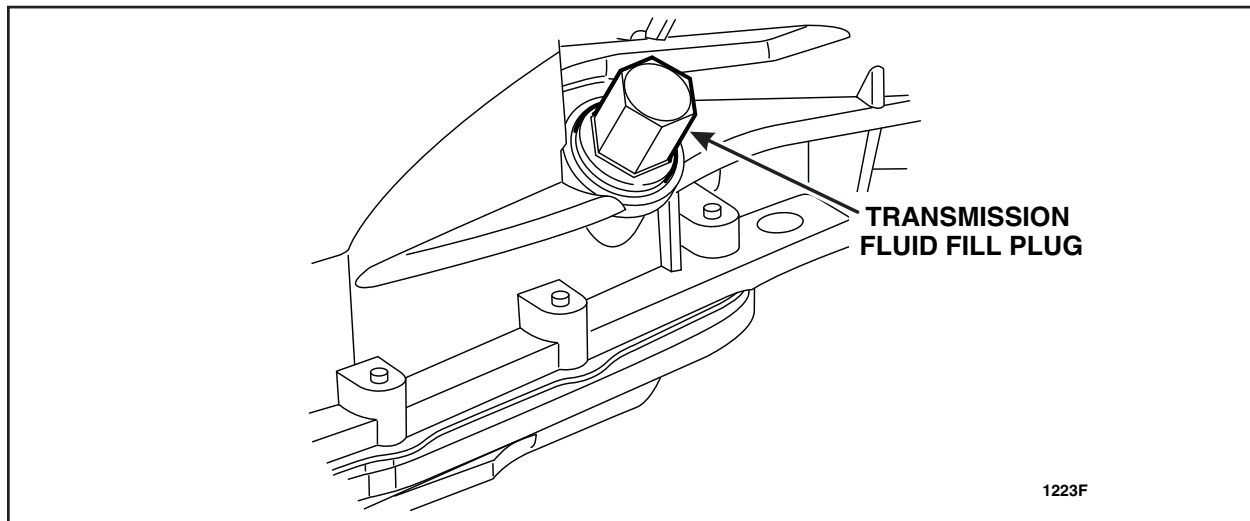

FIGURE 1
2. Remove the transmission fluid fill plug. See Figure 1.